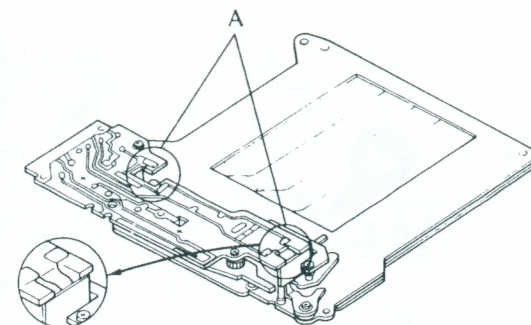

Fig. 49
- 2) Shutter (see Fig. 49).
A section in Fig. 49 should not be touched with fingers and hung with anything, because Mg coil is exposed.